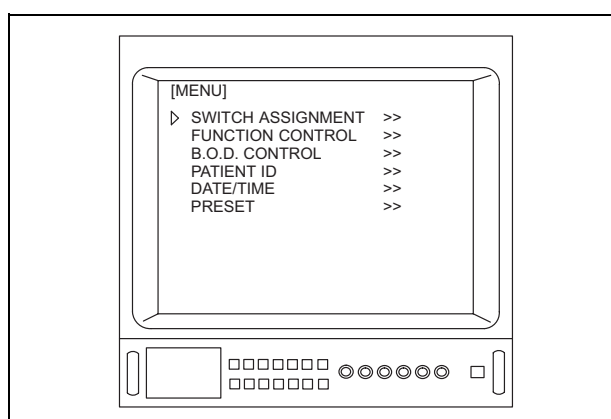

Figure 5.58
2. Depress the menu switches “” or “”, or the “” key on the keyboard to move the arrow “” to “SWITCH ASSIGNMENT” (see Figure 5.58).
- When using a type A OTV-S7V, “B.O.D. CONTROL” (see Figure 5.58) is not displayed.
- When the OTV-S7H-1D-F08E/L08E/D-L08E is connected to the OTV-S7V, “SWITCH ASSIGNMENT” (see Figure 5.58) is not displayed.